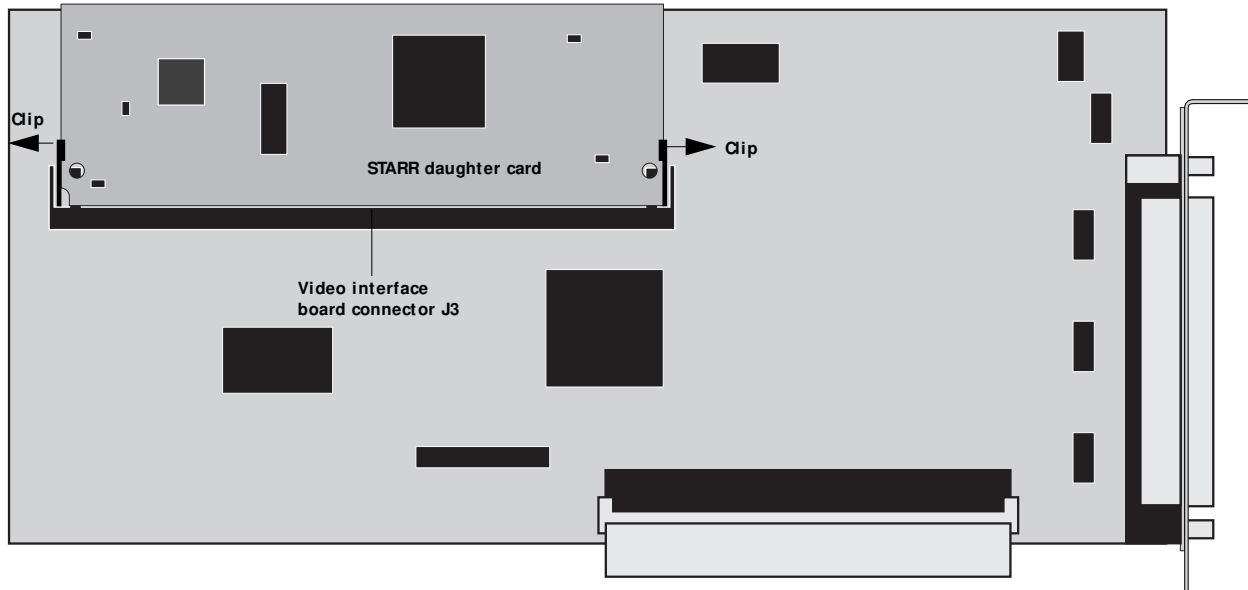

FIGURE 4-12 Removing the STARR daughter card
2. Gently, pull out the clips on the video interface board around the edges of the STARR daughter card (see Figure 4-12 on page 4-18).